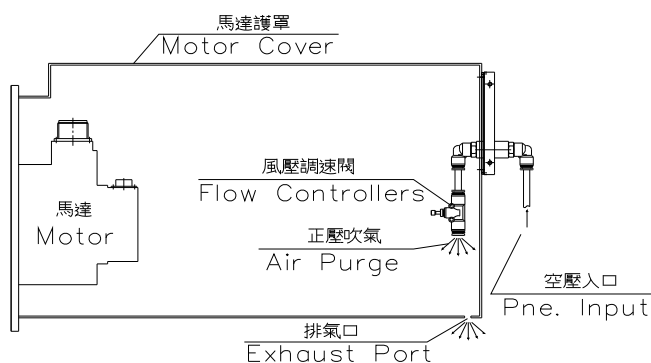

Fig 6-1
- (8).Supply compressed air to bring up barotropic fluid inside of motor cover. Tighten the pneumatic adjustable valve by clockwise and then lose this valve by 1/4~1/2 round to release the air (till sound of spout appears and air eject from nozzle). The positive air pressure stays to avoid any humidity accumulated in the cover and prevent damage and corrosion of internal electrical components. (see Fig 6-1)